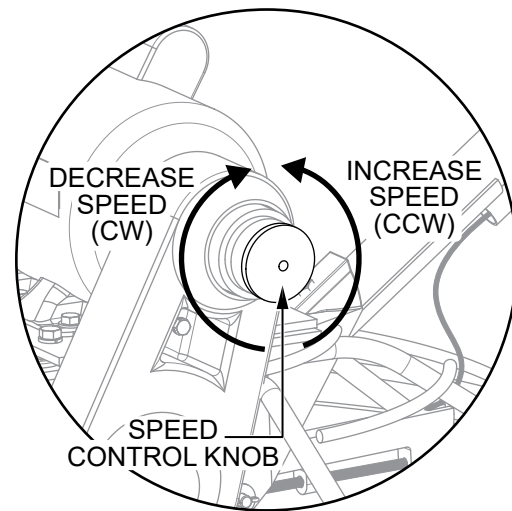

Figure 12. Speed Control Knob
2. Turn the speed control knob (Figure 12) counterclockwise to increase blade speed up to a maximum of 160 rpm.